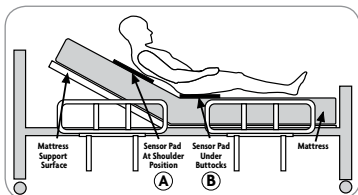

Fig. 25
2. Choose a position for sensor pad (Fig. 25):